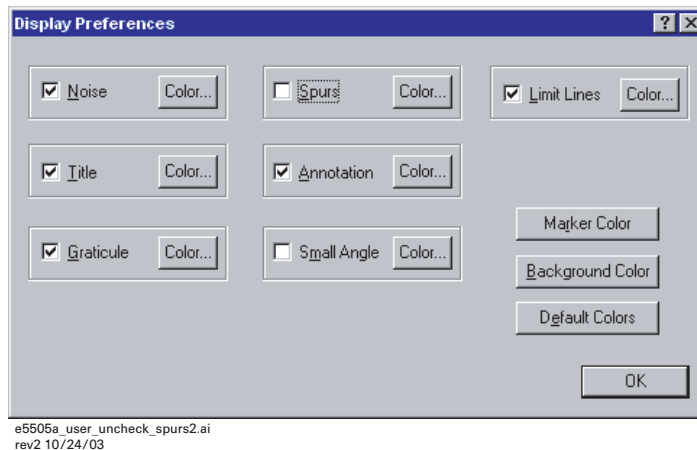

Figure 267 Uncheck spurs
- 2 In the **Display Preferences** dialog box, uncheck **Spurs**. See Figure 267. Click OK.